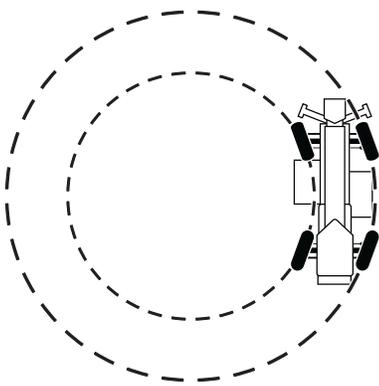

Figure 26 Four-wheel Steering
1. Four-wheel Steering (Figure 26)